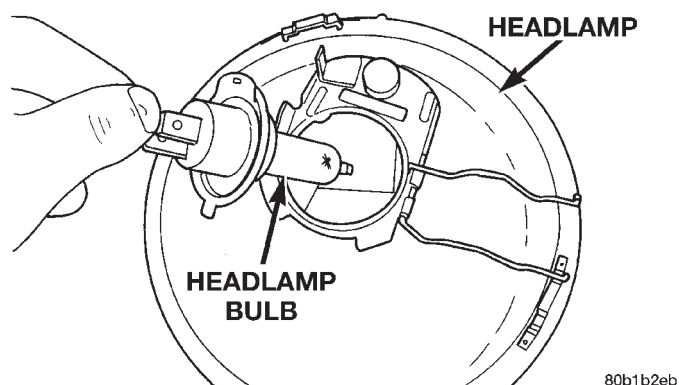

Fig. 5 Headlamp Bulb
- (8) Pull the headlamp bulb from back of headlamp assembly (Fig. 5).